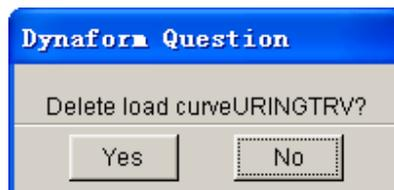

Figure 11.11.4 A DYNAFORM Question window.
- A DYNAFORM QUESTION window, as shown in Figure 11.11.4, appears.